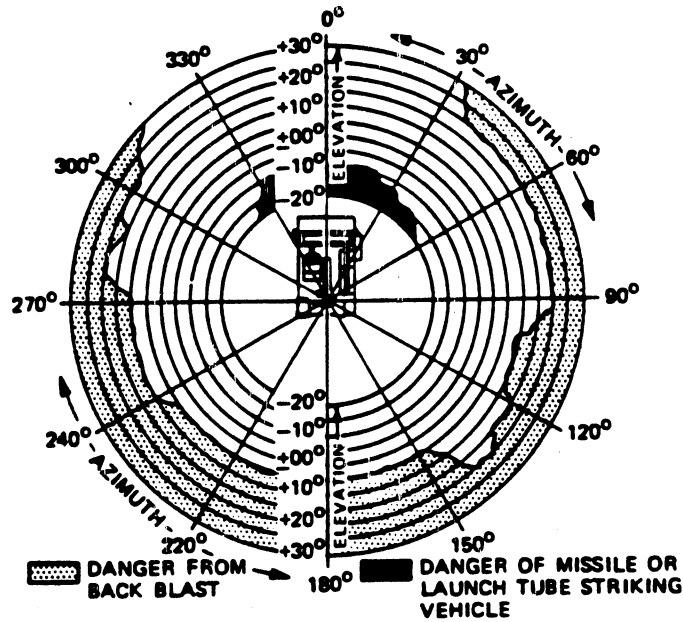

Fig 4-33. Restricted firing angles (jeep launcher).
- o There are restrictions to the angle in which a missile may be fired from a jeep launcher. The graph below shows the restricted firing angles in relation to the direction in which TOW launcher is pointing. The jeep launcher (and maybe the gunner) will either be blown up by the missile or severely damaged by the backblast of the launcher if pointed in a restricted position while being fired (fig 4-33).